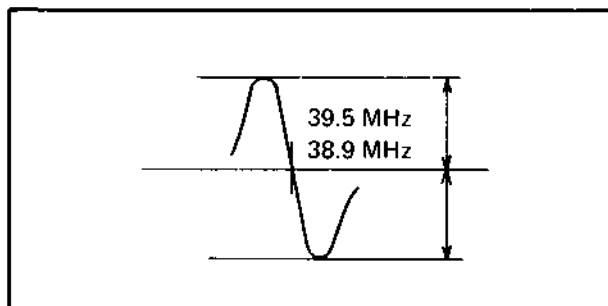

Fig. 5-50
6. Adjust the core of T401 so that waveform becomes symmetrical around its center as shown in Fig. 5-50.